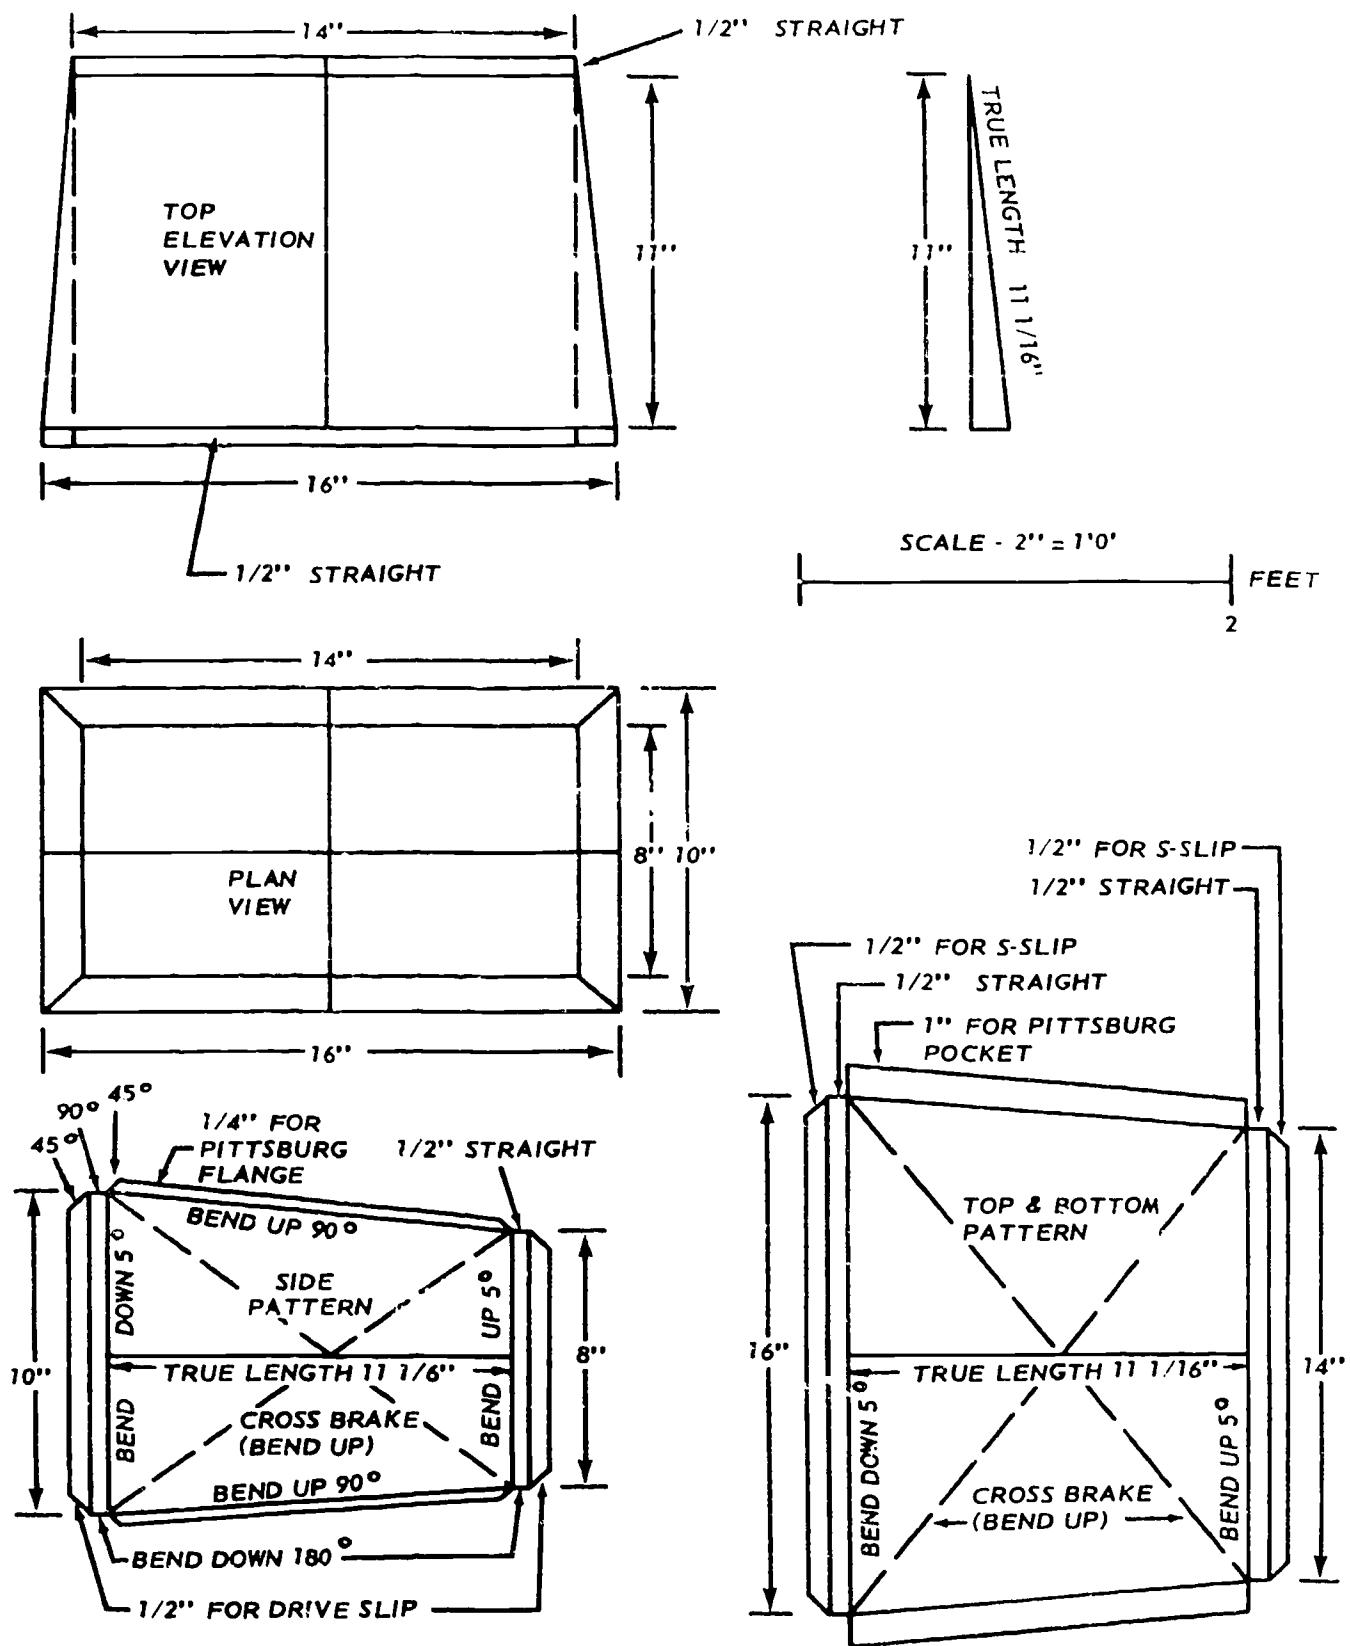

Figure 4-13. Patterns for 16" x 10" to 14" x 8" transition for trunklines B and C.
*Transition patterns.* Trunklines B and C in figures 4-6 and 4-9 have three transitions each. These six transitions are similar, except for the two that have a reduction in both dimensions (joint 8 of trunkline B and joint 9 of trunkline C). Figure 4-13 shows the development of the patterns by the triangulation method for the sides, top, and bottom of the transition. First, draw a plan view of the larger rectangle (16" x 10"), as shown in figure 4-13. Next, draw the smaller 14" x 8" rectangle inside the larger rectangle. Note the corner diagonals and the centerlines. The next step is to project the vertical lines and make the top elevation view. The height of the transition is 12 inches, but you must leave  $\frac{1}{2}$  inch straight at each end so that the S-and-drive slips will connect properly. This makes the height of the elevation view (not counting the straight)
11 inches, as shown in figure 4-13. The true length (height) of the sloping sides when they are drawn to actual size (or scale) is  $11\frac{1}{16}$  inches, making the total length of the pattern, including allowances,  $13\frac{1}{16}$  inches.
The patterns for the top and bottom, before the S-and-drive allowances are included, are identical to the elevation view except that the true length is used. To the top and bottom pattern in figure 4-13, you must make  $\frac{1}{2}$  inch S-and-drive allowances at each end, and make 1-inch Pittsburg seam pocket allowances at both edges. Notice how the straights are bent, one up  $5^\circ$  and one down  $5^\circ$ . The patterns for the two sides of the transition are identical. In figure 4-13, the 1-inch straight on the widest end is 10 inches long, and the other straight is 8 inches long. These straights are  $11\frac{1}{16}$  inches apart. Notice the allowances of  $\frac{1}{2}$  inch at each end and  $\frac{1}{4}$  inch at each side. In both patterns, the bending instructions, notching instructions, and cross brake lines are shown.
**Cutting and Notching.** Such patterns as those shown in figures 4-13 and 4-14 contain information you can use for cutting and notching. For example, figures 4-4 and 4-8 show how you can arrange the patterns on full-size sheets in such a way that you will have very few leftover pieces after cutting. This information, combined with what you learned about sheet metal cutting equipment in Volume 2 of this course, should help you cut and notch patterns of almost any shape. Most of the patterns for this heating and air-conditioning duct system can be cut with squaring shears or unishears and notched with straight snips.
The patterns for the transitions shown in figure 4-13 are to be cut from sheet 6 in figure 4-8. Notice that we estimated the top and bottom patterns to be 13" x 18", but because of the true length of the sloping sides, the pattern requires 13" x 18". This additional 1/16 inch can be obtained from the leftover space on sheet 6 (fig. 4-8) without affecting the other patterns. This same additional 1/16 inch is needed for the 2-side patterns,
**Notching patterns.** You make the slits and notches in patterns with straight snips or throatless shears. The straight snips are used most often, but throatless shears have more leverage and require less effort. When using either of these, you must be careful not to make the cuts any longer than is specified on the pattern. Notching is needed so that you can bend the sheet metal along the brake lines indicated on the pattern and can assemble the Pittsburg lock seams more easily, assemble S-and-drive slip joint connections more easily, and install the drive slips more easily. You cut V-notches and slant notches at  $45^\circ$  angles, and square notches at  $90^\circ$  angles. In figure 4-13 you can see examples of these notches. You use V-notches along the 1/2-inch allowances for the S-and-drive connections, slant notches at each end of these 1/2-inch allowances, and square notches at each end of the 1-inch Pittsburg seam allowance. You can cut all of these with straight snips. Notice at the righthand end of the pattern how one cut makes the slant notches for two sides at one time.
The patterns for the  $16''$  x  $10''$  to  $14''$  x  $8''$  transition shown in figure 4-13 have  $45^\circ$  and  $90^\circ$  notches at each corner. Although these notches are arranged somewhat differently from the notches for the rectangular-shaped duct, they are cut with the straight snips in the same manner.
*Transitions.* Forming and assembling the transition patterns shown in figure 4-13 are more complex than forming and assembling round or rectangular joints because of the multiple bends required. However, if you first determine the best sequence for making the bends, the job is not difficult. Since these patterns are not too large, the standard 1-2-3 folding sequence can be used. (Step 4 is not needed for this component.) First, use the cornice brake to bend the metal up 10° to 15° along the cross brake lines on all four patterns.